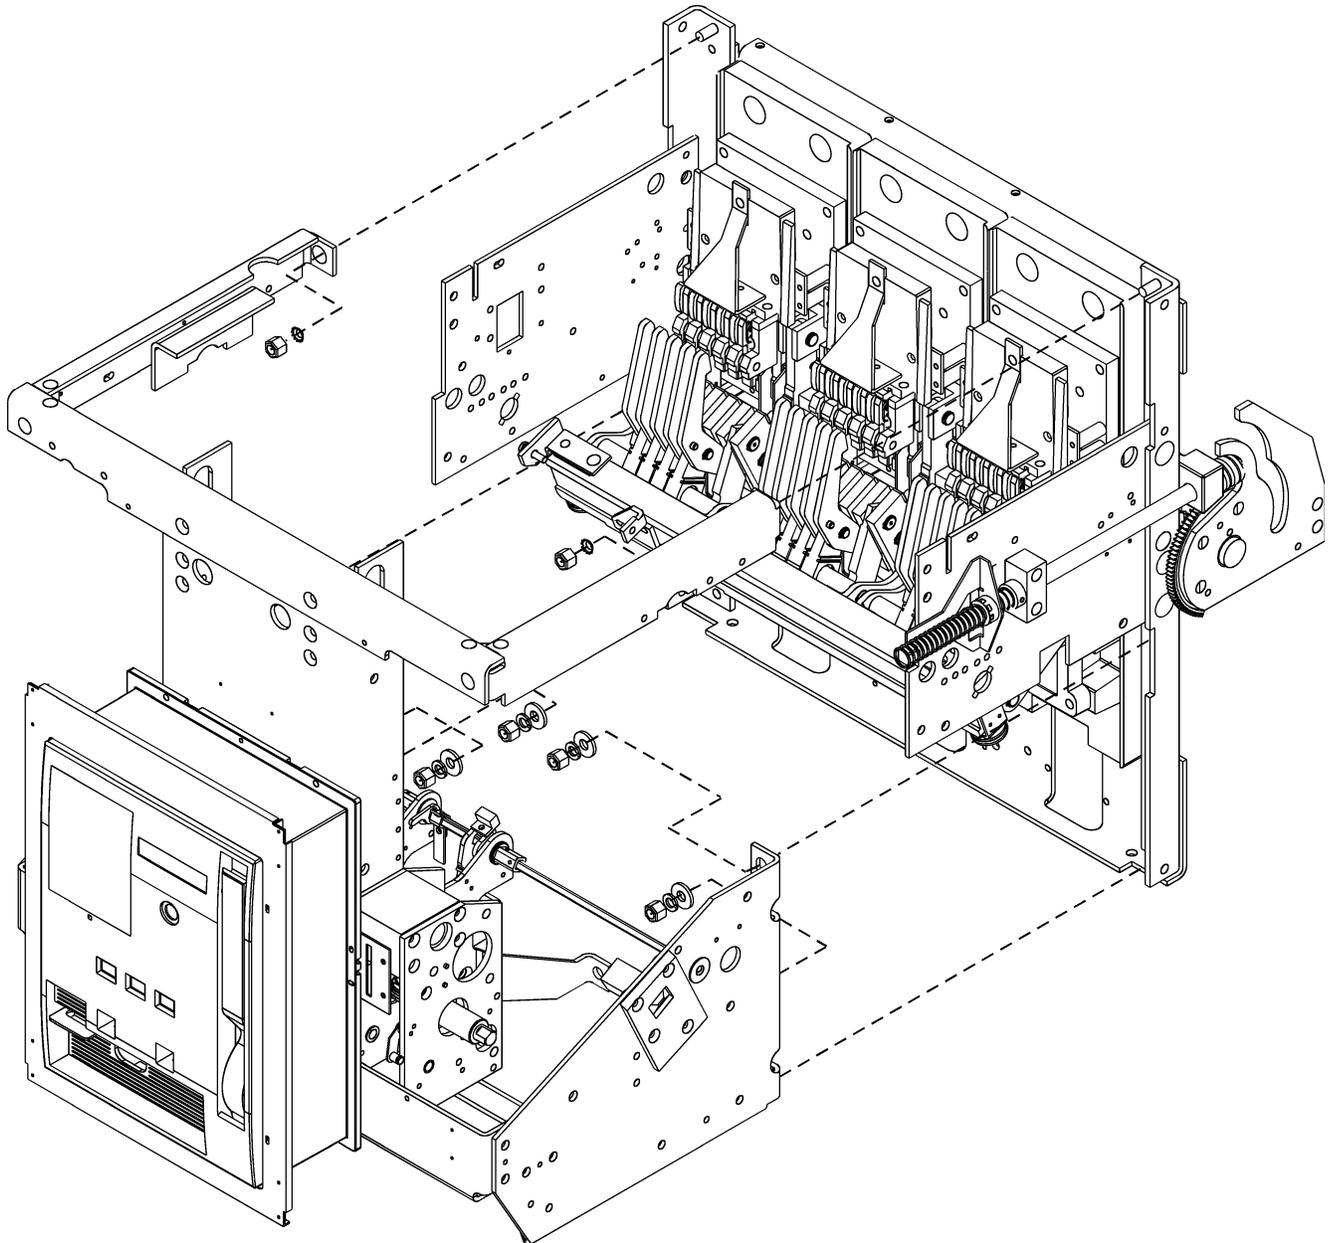

Figure 14. Separating the front frame from the back frame.
16. Remove the six sets of nuts and washers connecting the front frame to the back frame, as illustrated in Figure 14.
1. Place the breaker back frame on the work surface, resting on the primary disconnects. Lower the front frame into position, lining up the corresponding holes with the six mounting studs in the back frame, as illustrated in Figure 14. Attach the six sets of nuts and washers to the mounting studs and tighten to 30 ft-lbs.